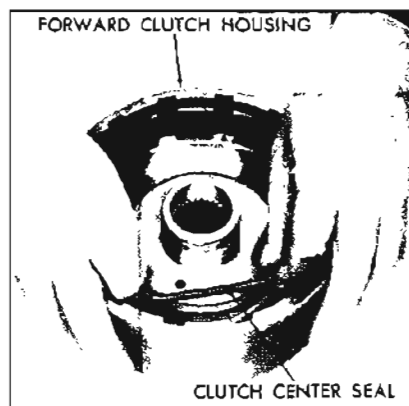

Figure 5-613
2. Place a new center seal on the clutch housing, lip faces up. See Figure 5-613.